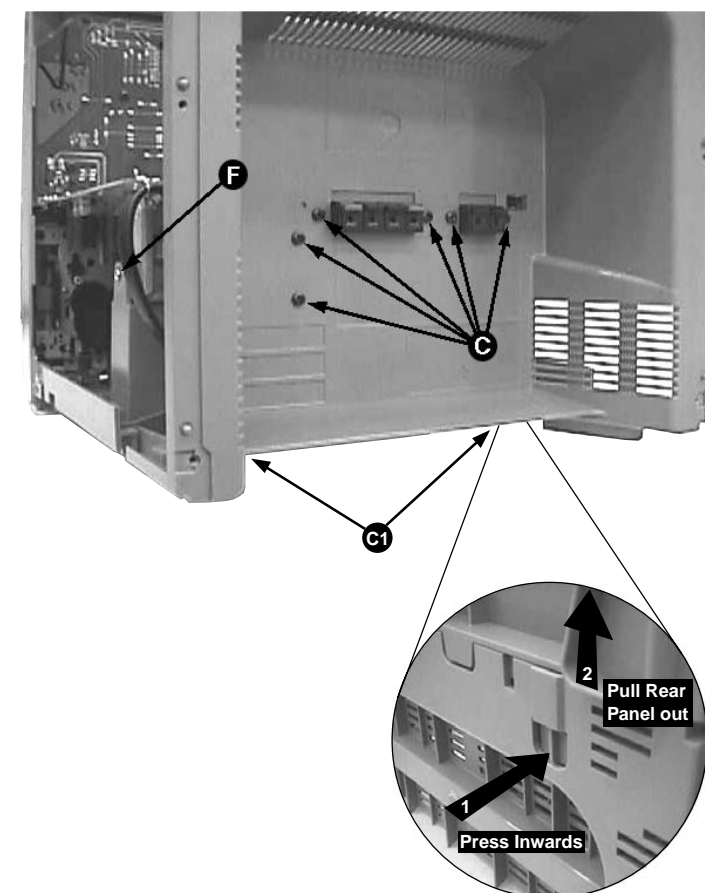

Figure 3
- 1) Loosen the 4 screws, slide Cover top (pos 30) towards the rear and remove it upwards.
- 2) Loosen 3 screws slide the Panel right (pos 26) towards the rear and remove it outwards. Do likewise for the Panel left (pos 27).
- 3) Push the gear slowly towards the front as shown in figure 3 until the CDC tray starts to move out of the Front Cabinet (pos 8). The CDC tray is now disengage and can be pulled out completely.
- 2) Remove 1 screw E supporting the bracket, Combi board (pos 33) to the Panel front (pos 8).
- 3) Remove 1 screw F (see figure 3) mounting the Mains transformer body to the Panel Bottom (pos 25).
- 5) Loosen 6 screws G and eject both cassette doors to remove the Tape mechanism (pos 12).